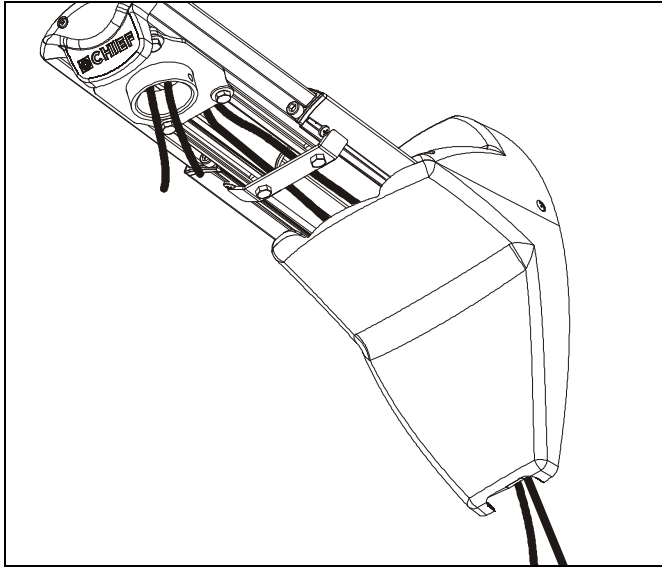

Figure 18
3. Route projector cable(s) under mount cover and through WMA1S arm. (See Figure 18)